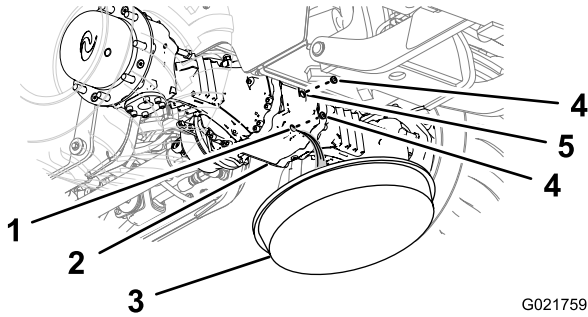
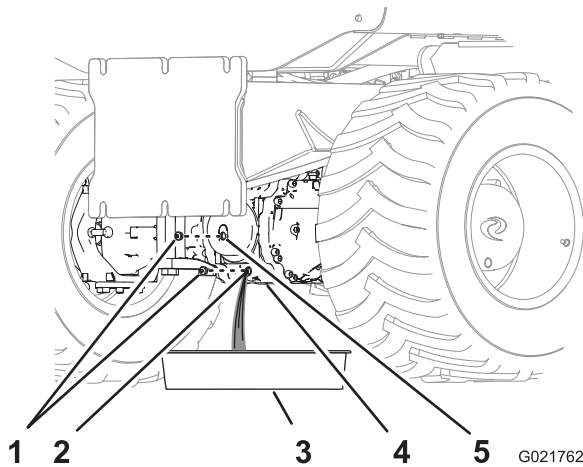

Figure 66
Figure 67
1. Place a drain pan under the pinion housing of the axle (Figure 66 and Figure 67).
2. Remove the plugs from the sight port and the drain port of the pinion housing (Figure 66 and Figure 67).